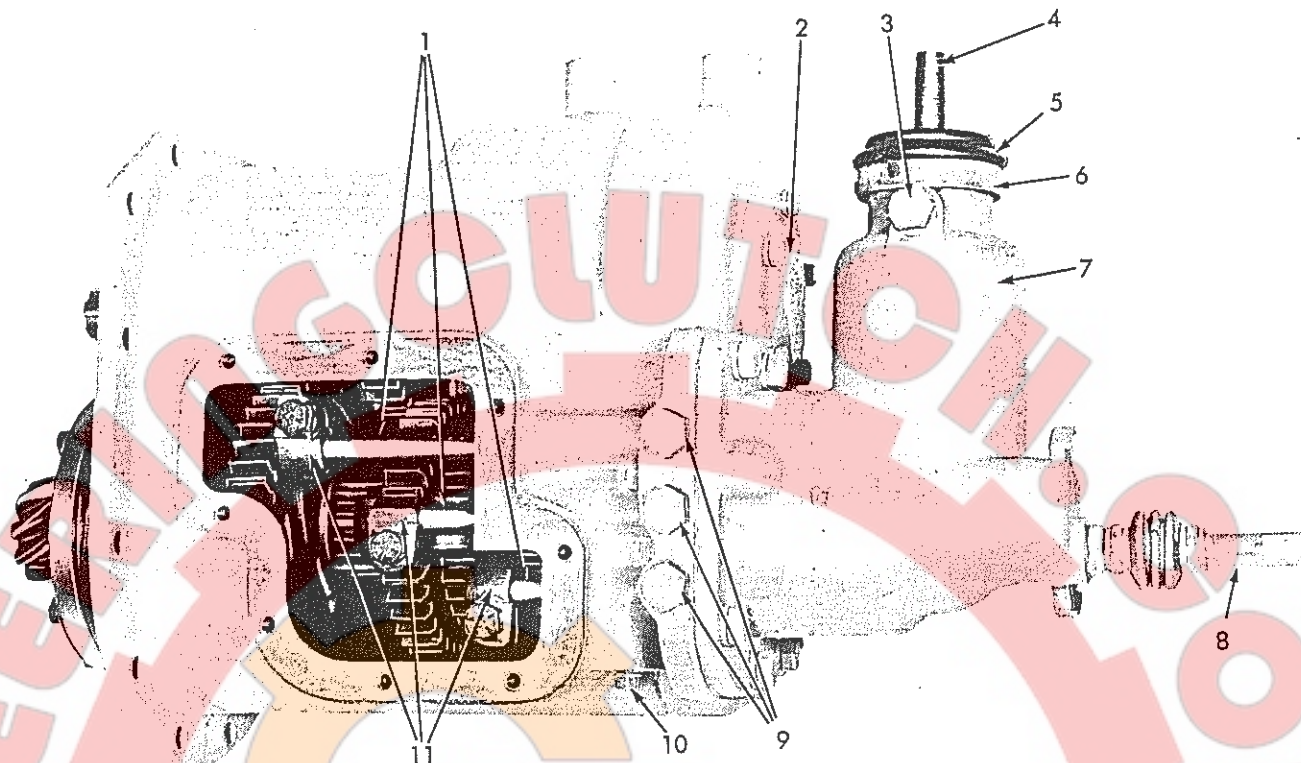

Fig. 3 Transmission Assembly - Side Cover Removed
8. Remove shifting shaft ball spring capscrews Fig. 3 (9); tilt transmission and allow steel balls and springs to fall from capscrew holes.
9. Remove pipe plug Fig. 3 (10); hold lower shaft shifting fork; pull shaft from transmission. Two steel detent balls and shifting shaft interlock pin will fall from pipe plug hole as shaft is pulled.
15. Remove top shaft front bearing cover, Fig. 3 (2); remove snap ring from front end of shaft. Drive shaft out toward rear of case; remove gears as they are free of shaft.
- c. Insert rear end of shaft through front bore in transmission. Refer to Fig. 1, 2, or 7; install gears on shaft in order and position shown. Push shaft to rear until front bearing is seated in its bore; install front bearing cover, Fig. 3, (with new gasket).